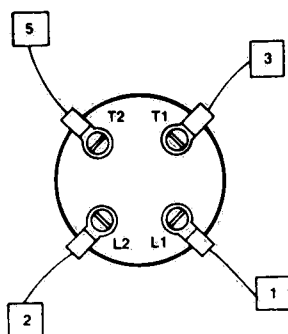

Figure 6-3. CONNECTING WIRES TO TIMER.
2. Disconnect wires (numbers 1, 2, 3 and 5) from back of timer (Fig. 6-3).
NOTE: See Figure 6-3 for connecting wires.